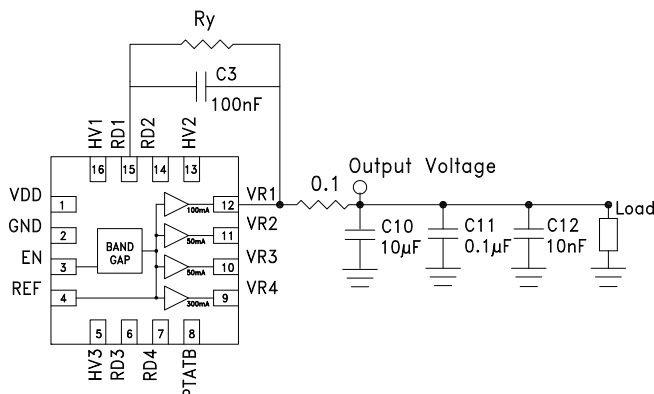

Figure 13. Recommended HMC1060LP3E configuration for supplying output voltage values less than default. [1]
The outputs of the HMC1060LP3E are configured to supply voltages less than the default values, down to 1.8 V minimum, by connecting a resistance ( $R_y$  in Figure 13) between pins VRx and RDx (where  $x = 1,2,3,4$ ). Figure 13 shows an example of configuring VR1 output. Other outputs are configured in exactly the same way (ie.  $R_y$  is added between VR2 & RD2, VR3 & RD3 and between VR4 & RD4).
2. To set VR1 = VR2 = VR3 = 1.8 V in with PTAT Mode disabled, external resistance Ry = 21 kΩ shown in Figure 13 is required.